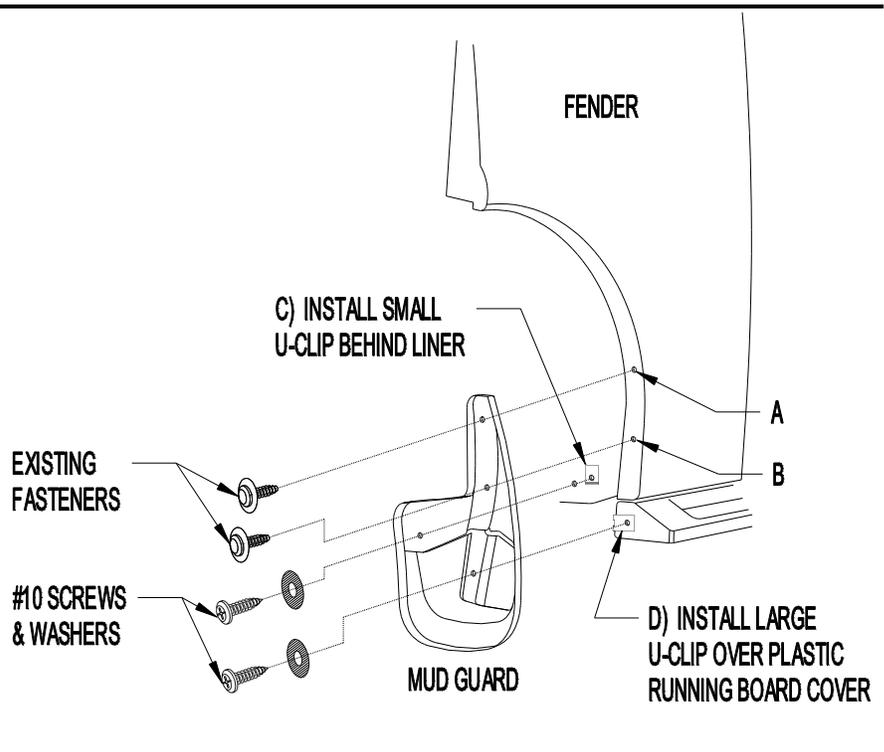

Figure 1
- #10 Screw (4)
- Washer (4)
- Large U-clip (2)
- Small U-clip (2)
1. Remove existing fasteners from locations A and B (Figure 1).
4. Remove mud guard and install large u-clip at location D over running board lip and align the drilled and u-clip holes (Figure 1).
7. Install #10 screw and washer at location C, thru mud guard, fender liner and into a **small u-clip** behind liner. **NOTE:** The small u-clip is used like a nut and DOES NOT clip over fender liner (Figure 1 and 2).